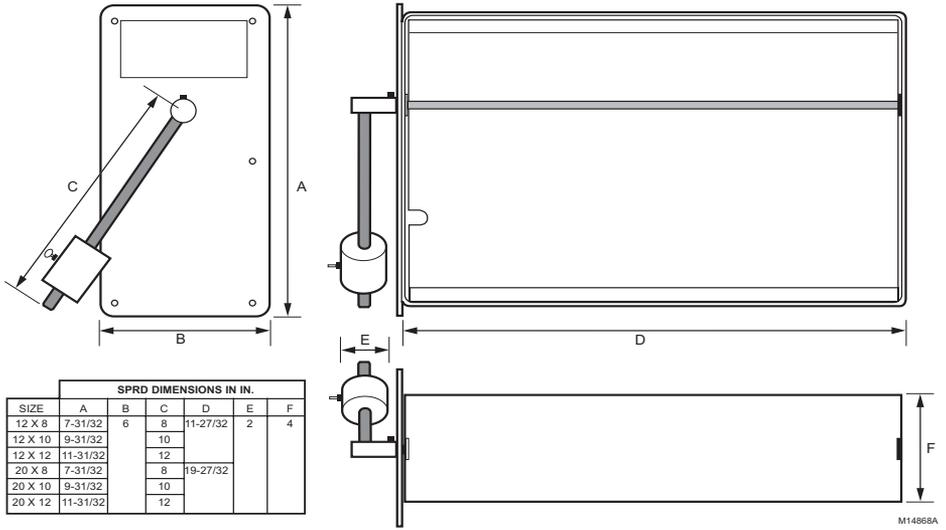

Fig. 1. Rectangular damper dimensions in in.
The SPRD automatically opens as the air pressure in the duct system increases, and ducts the air into the return or dump zone. Both the position of the counterweight and the swing of the arm can be adjusted to allow the SPRD to open when necessary. See Fig. 1 and 2 for SPRD dimensions.
1. Cut a 4 in. opening into the side of the air duct. Be sure the opening is cut fully to the top and bottom of the duct. (See Fig. 1 for damper dimensions.)